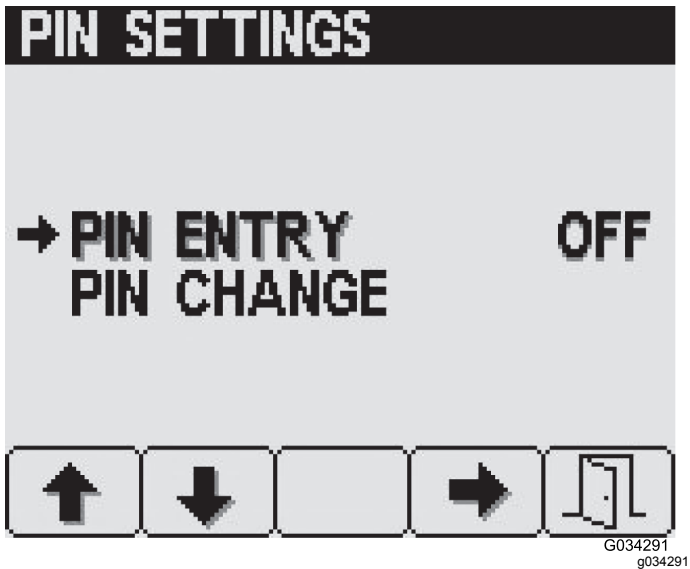

Figure 31
3. From the PIN Settings screen, press button 4 to select PIN Entry and to turn the PIN option ON or OFF (Figure 31).